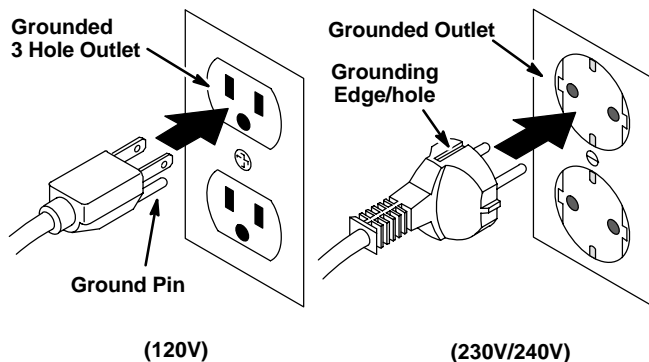

FIG. 8
2. Plug extension cord into a grounded outlet (Figure 8).